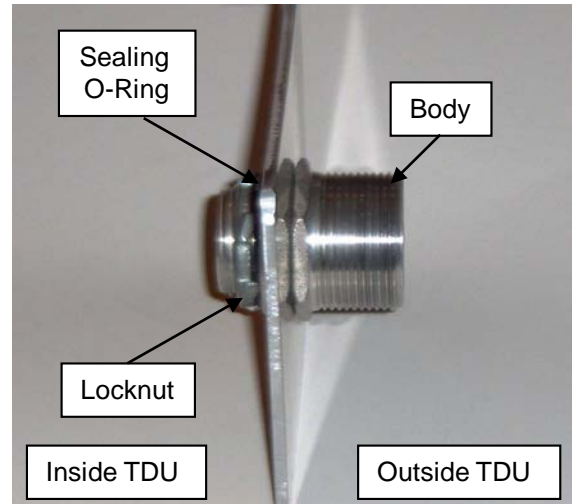

Figure 7
6.7 Use appropriate size wrenches and tighten Locknut to firmly secure Kellems Grip body to TDU. See **Fig. 7**.